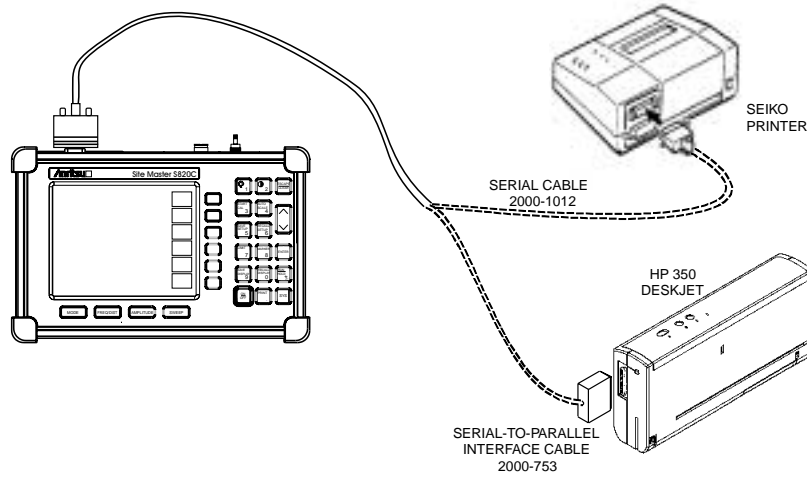

Figure 3-2. Site Master Printer Setup
Step 1. Connect the printer as shown in Figure 3-2.